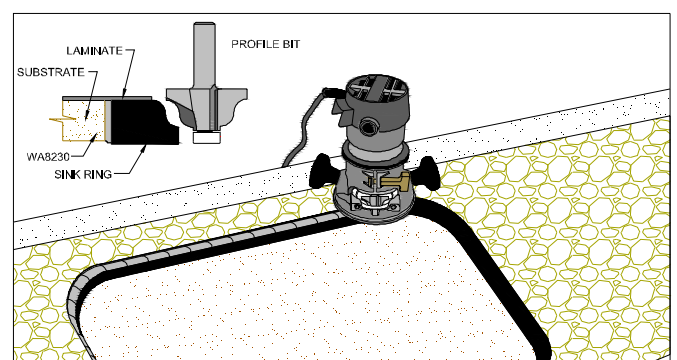

Figure 4D
- Route desired profile. (FIG. 4D)